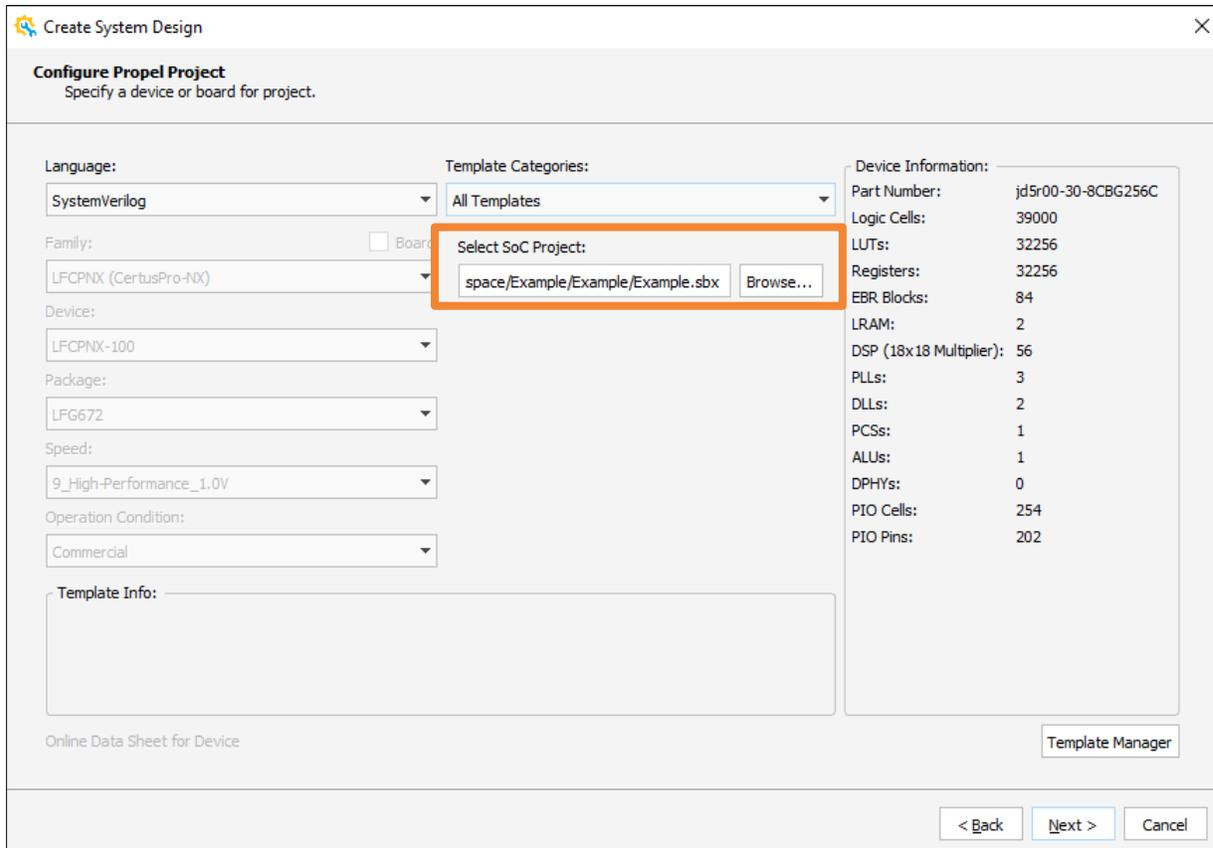

Figure 2.114. Create System Design – Propel Project Configure Wizard
5. Click **Next**. The Propel Project Configure wizard is shown as Figure 2.114.